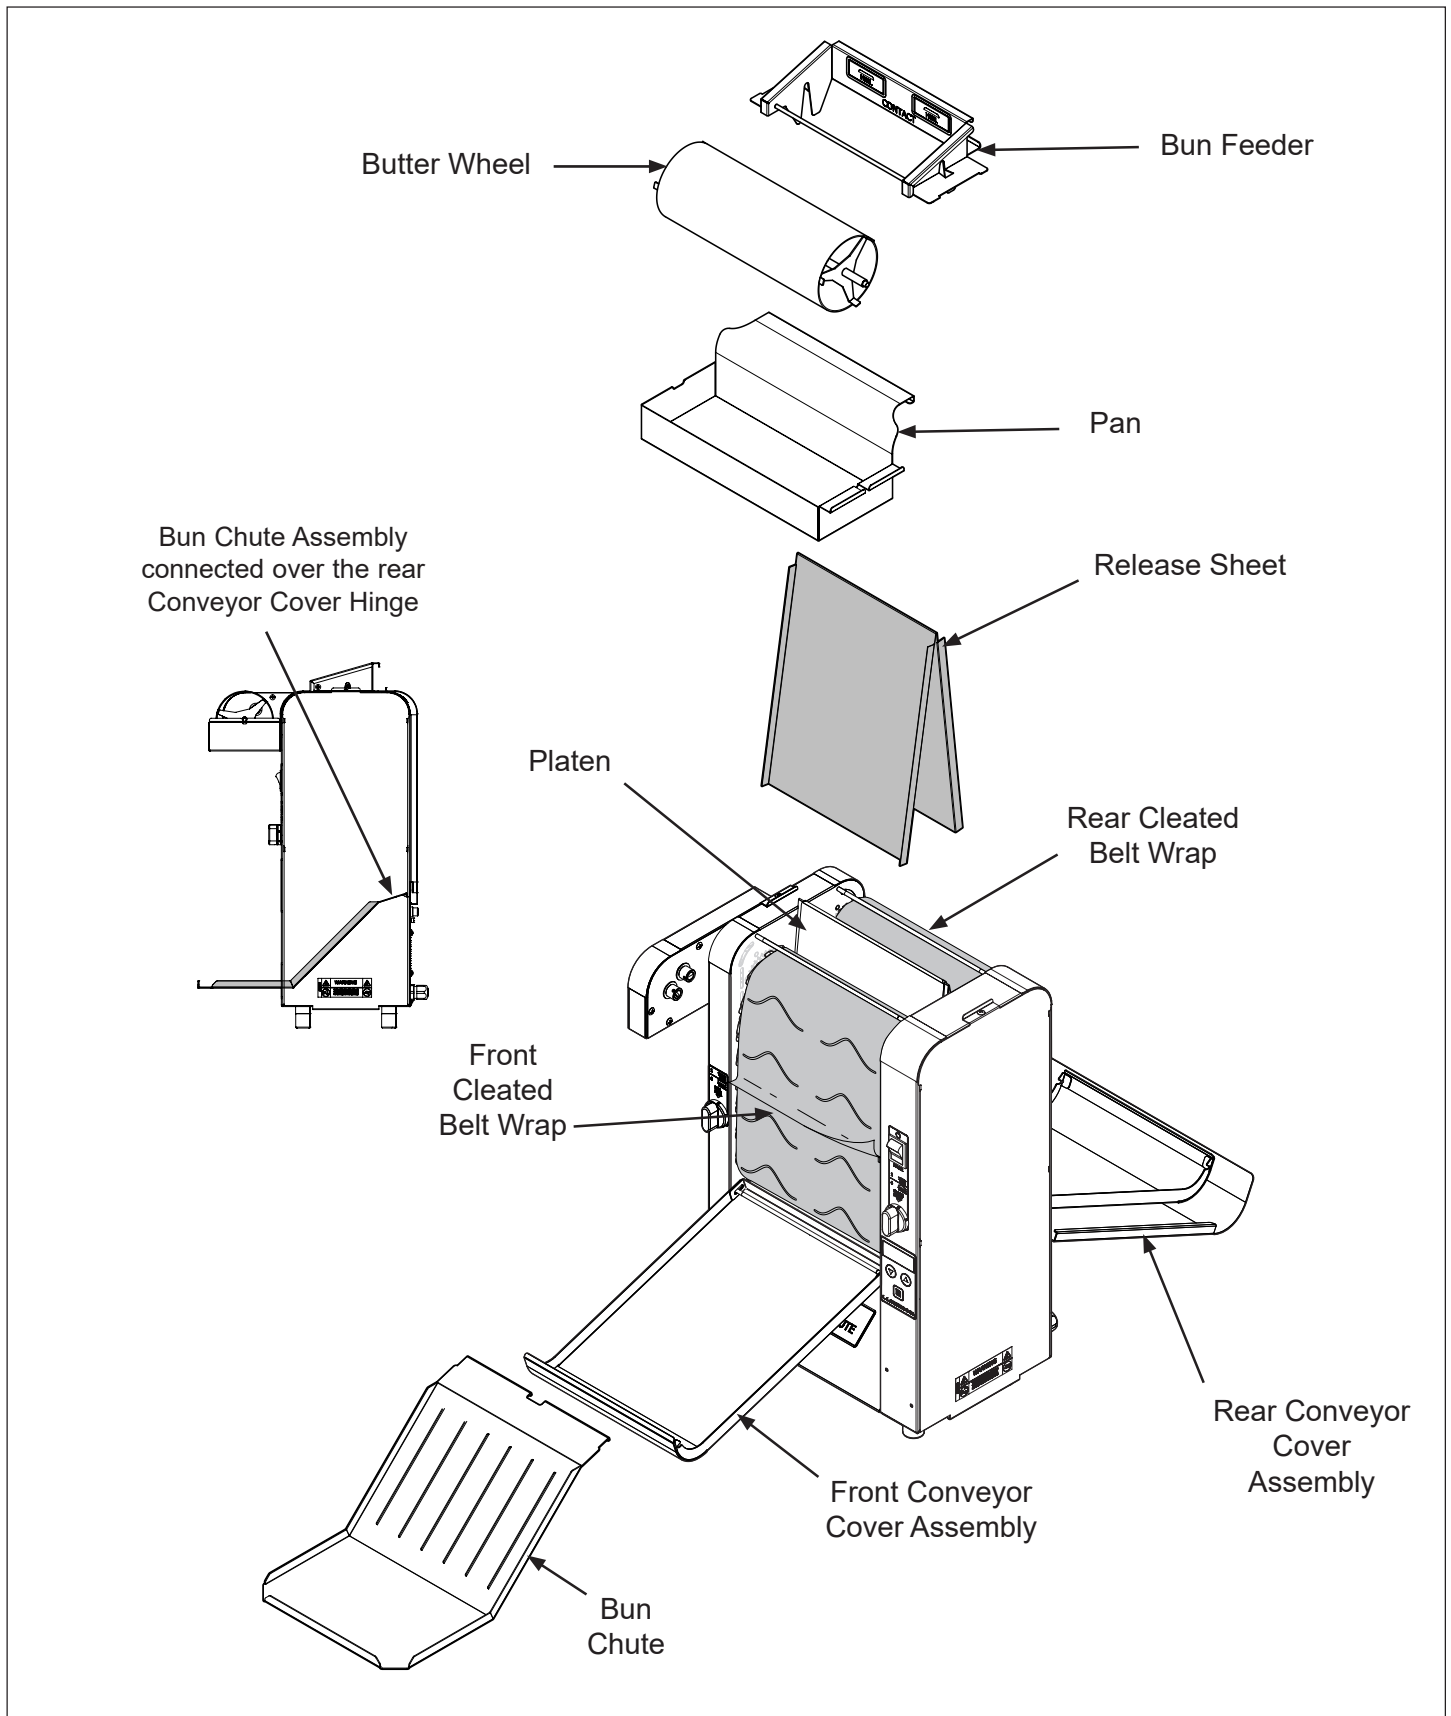

Figure 2. Components
2. Open the included large box. It should contain the following (See Figure 2):
**NOTE:** The factory has pre-installed a Release Sheet over the Platen (Figure 2). Verify that it is properly in place before proceeding.
2. Install the Pan over the front edge of the Heat Shield and place the Butter Roller in Pan and engage into gear case (Figure 2).
**IMPORTANT:** Make sure Heat Shield assembly is activating the Conveyor Interlock Switch (Figure 2). The conveyors will not rotate unless the Heat Shield is in place and Conveyor Interlock Switch is activated.
2. Put on heat-resistant gloves. Remove the Bun Feeder, Release Sheet, and Bun Chute and set aside (Figure 2).
2. Remove the Bun Feeder and Bun Chute (Figure 2). Set the Bun Thickness Compression Knobs to 6 & 6.